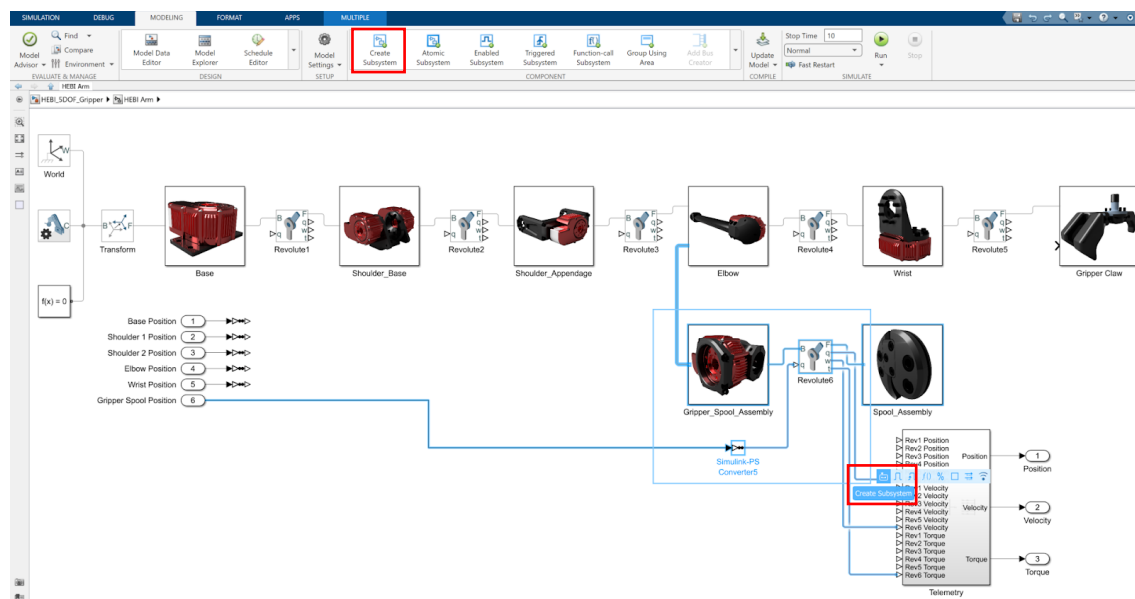

Figure 10: Creating Gripper Spool Subsystem
15. With the setup and connections from the previous steps complete, select the “Gripper_Spool_Assembly”, “Spool_Assembly”, “Revolute6”, and the “Simulink-PS Converter5” block, as well as all the connection lines, as shown in figure 10. Then create a subsystem of the selection by clicking the “Create Subsystem” button or by pressing “ctrl+g” (windows), “cmd+g” (mac).